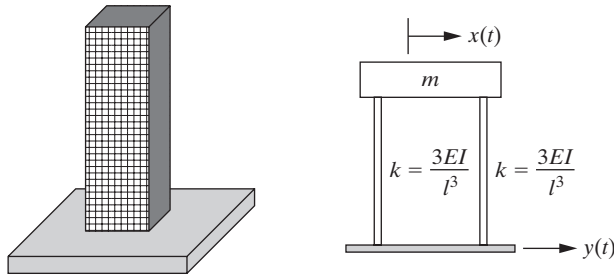

Figure P2.60 A simple model of a building subject to ground motion, such as an earthquake.
- 2.60.** Consider the simple model of a building subject to ground motion suggested in Figure P2.60. The building is modeled as a single-degree-of-freedom spring-mass system where the building mass is lumped atop two beams used to model the walls of the building in bending. Assume the ground motion is modeled as having amplitude of 0.1 m at a frequency of 7.5 rad/s. Approximate the building mass by 10^5 kg and the stiffness of each wall by 3.519×10^6 N/m. Compute the magnitude of the deflection of the top of the building.